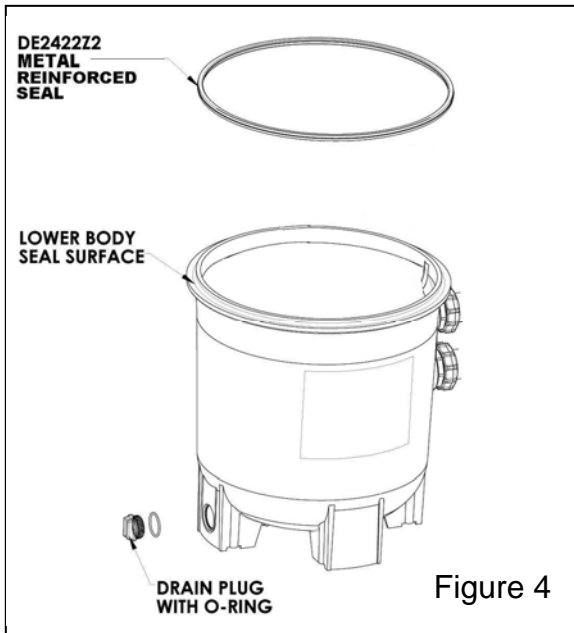

Figure 4
2. Close filter drain. Note: Filter plug requires an o-ring seal. (See Fig 4)
4. Remove filter drain plug (FIG 4) and drain water from filter.
2. With a clean cloth wipe the lower filter body seal surface. (Fig 4) Do not use a solvent.
- Place the metal reinforced seal on the lower filter body (Fig 4). Place the upper filter body on the Hayward DEX2422Z2 metal reinforced seal and lower filter body in a position which allows all operation and safety labels to be clearly visible and the upper body to be centered on the lower filter body. Press down firmly and evenly to set the upper filter body. (Fig 7)